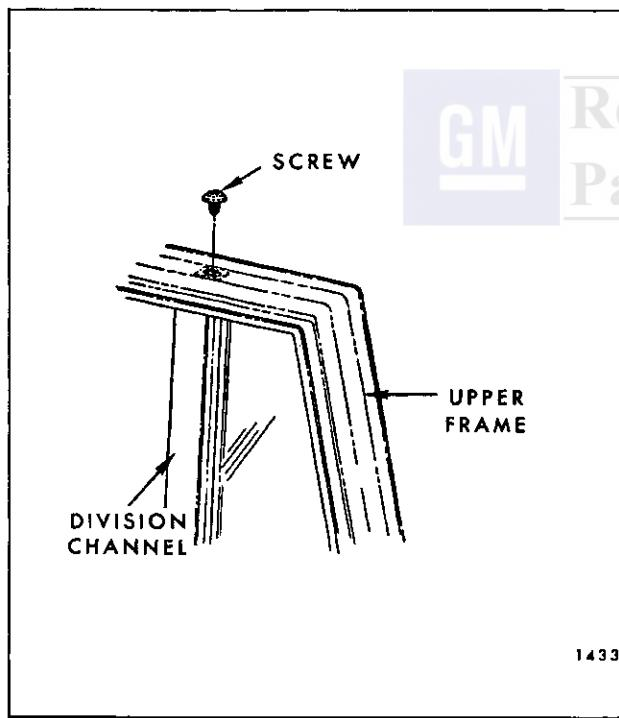

Fig. 6-100—Rear Door Ventilator Attachment — "X" Styles
4. Carefully lower door window and remove division channel to door upper frame attaching screw (See Fig. 6-100).